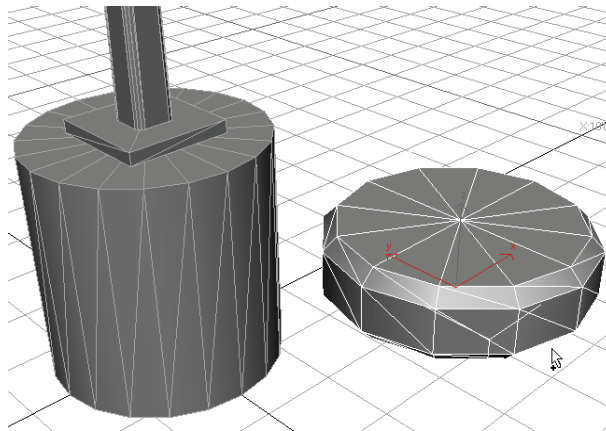

Figure 3–13
2. Next to the base (LP Base), click and drag the left mouse button to size the radius to roughly **2'0"** (Keep looking in the Parameters rollout in the Command Panel where the Radius changes interactively as you move your mouse). After releasing the mouse button, move your cursor up the screen slightly to give the cylinder a height of approximately **1'0"**. Click a second time to set the cylinder height. Then move the cursor up and down the screen until you can roughly define a **0'2"** fillet. Complete the object creation process with a third click. The object should display as shown in Figure 3–13.
3. With the object, **ChamferCyl**, still selected, in the Command Panel, select the *Modify* tab () and modify the parameters, as shown in Figure 3–14.